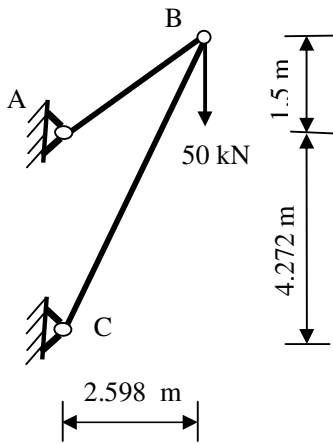

Fig.3 Q.3(a) OR
- Q.3** (a) Analyse a truss shown in fig.3 using stiffness member approach. All members have same cross sectional area. **07**